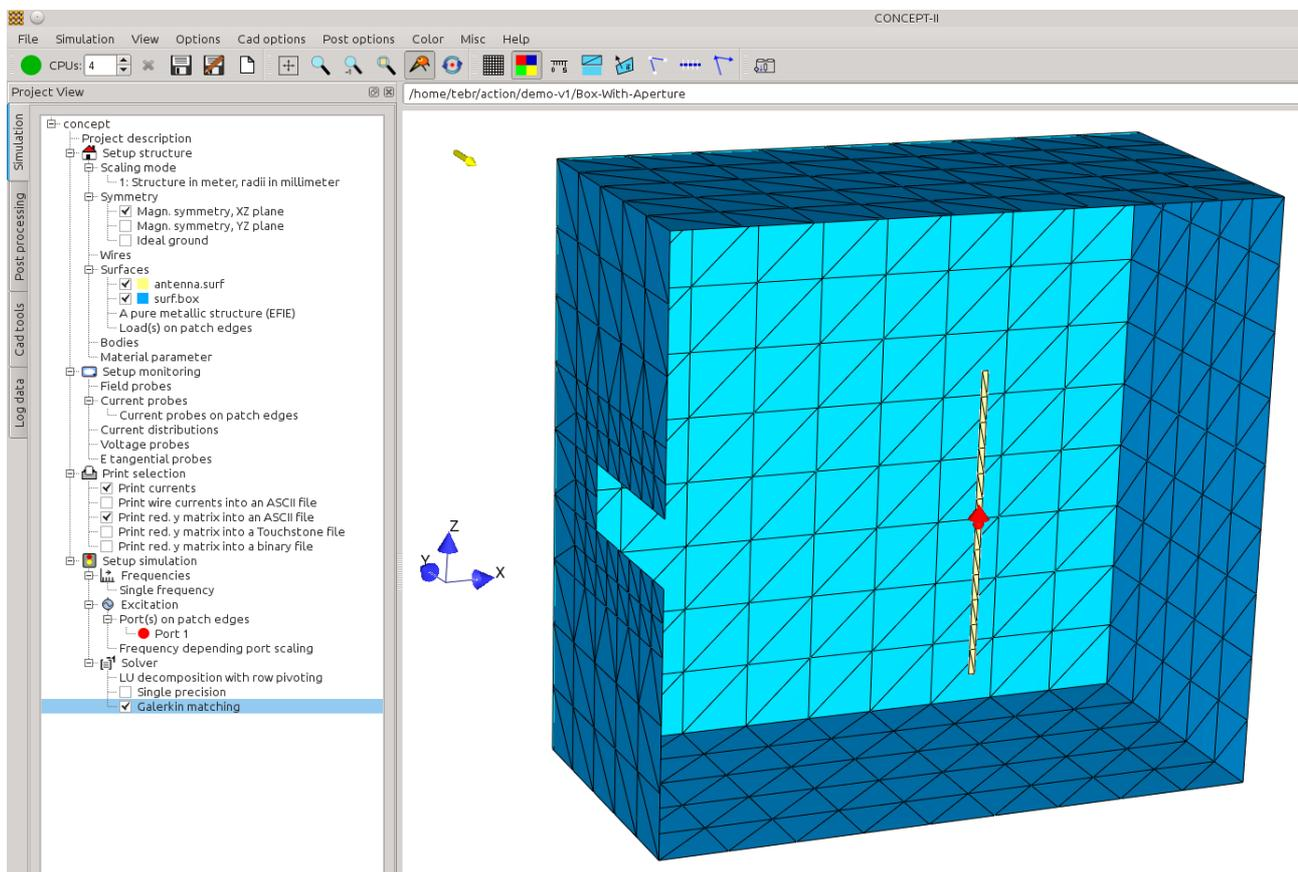

Fig 1: PEC cube with aperture and internal radiator (center-driven strip of patches)
It is recommended to start from an empty directory and set up the simulation according to Fig 1.
The structure under investigation is shown in Fig 1: It is a PEC cube with internal dipole antenna. Note that the dipole antenna consists of a narrow strip of triangular patches. As the antenna is more or less surrounded by PEC walls this example forms a challenge for a numerical computation. Galerkin testing is activated, see last item of the project tree. The applied frequency is 300 MHz. The internal dipole is fed by 1 W. Hence this power must completely go through the aperture as no other loss mechanism is present.
- Erase the patches at the location of the aperture. For the position of the aperture notice Fig 1.
For a high precision computation: activate the check mark 'Galerkin matching' as indicated in Fig 1.